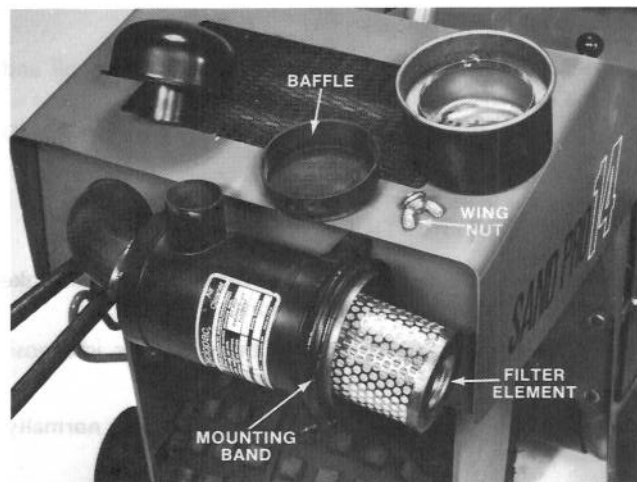

Figure 12
1. Loosen mounting band and remove cap and baffle (Fig. 12). Remove baffle from cap, clean dirt from cap and re-install baffle (Fig. 12).
2. Remove wing nut w/gasket and slide filter element out of air cleaner body (Fig. 12).